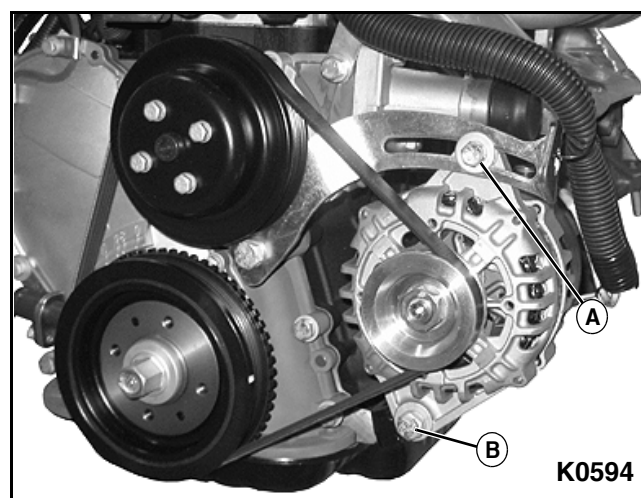

Figure 3-16
1. Loosen upper (A) and lower (B) alternator mounting bolts and rotate alternator towards cylinder block. **See Figure 3-16.**